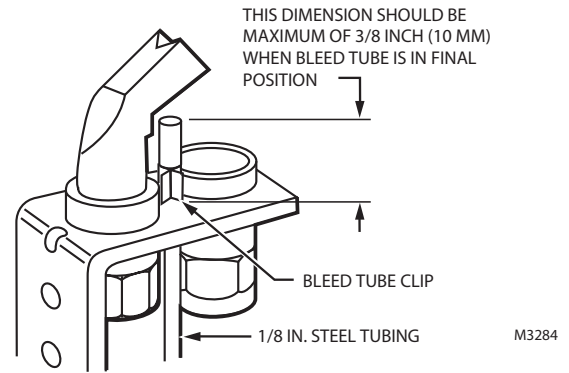

Fig. 22. Install bleed gas tubing
2. Push the clip into place as shown in Fig. 22.